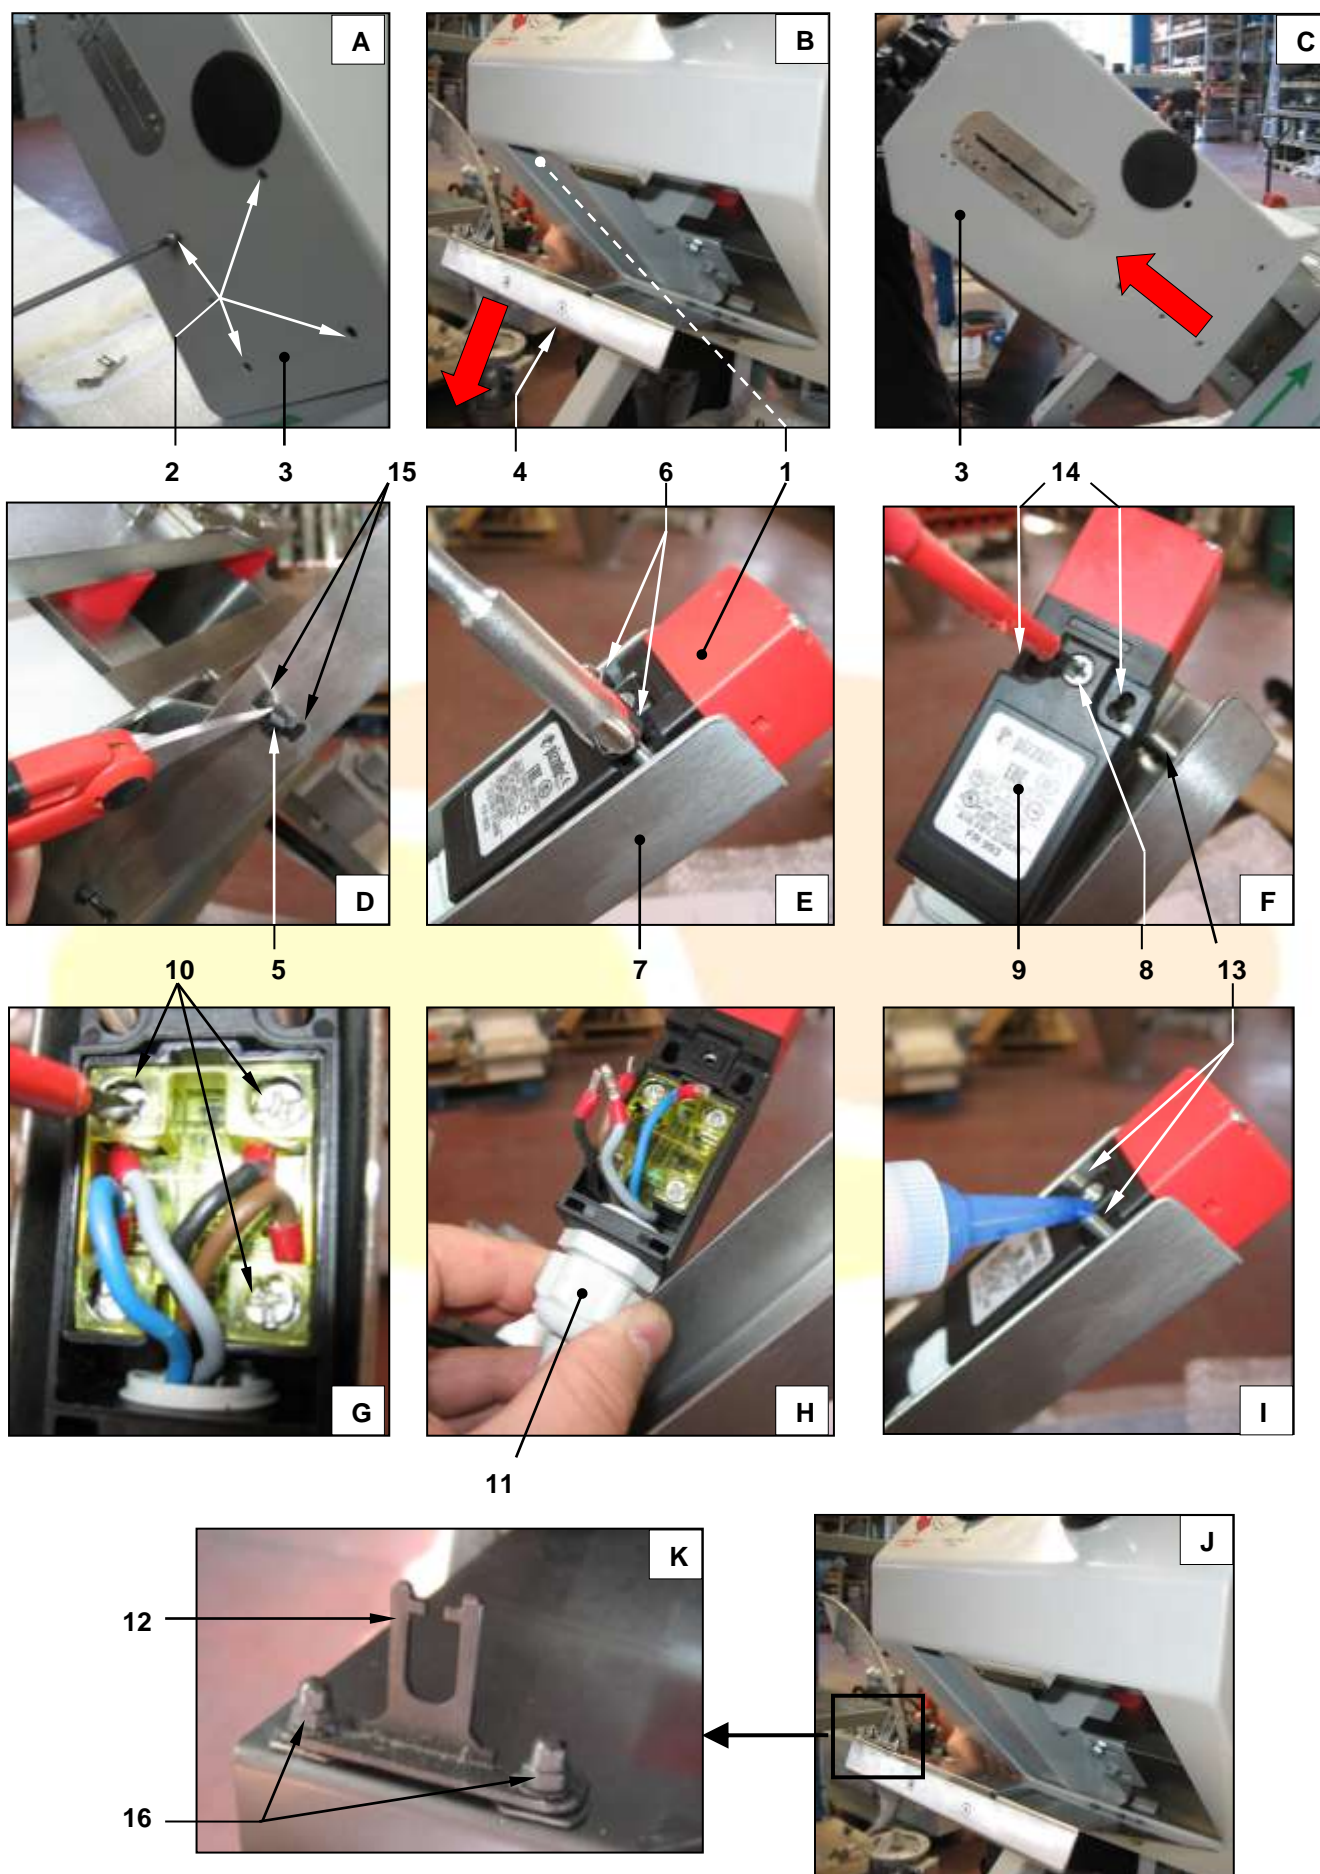

Figure 39 – Replacing the micro-switch associated with the weight chamber door
With reference to Figure 39, to replace the micro-switch ref. 1:
1. Use the 5 Allen wrench to loosen the screws ref. 2 and that hold the casing ref. 3 of the weight chamber in place (Figure A)
2. Open the door ref. 4 (Figure B), then slip off the casing ref. 3 (Figure C)
3. Use scissors to cut and remove the cable tie ref. 5 (Figure D)
4. Use the size 7 tube wrench to loosen the nuts ref. 6 that fix the micro-switch ref. 1 in place (Figure E)
5. Remove the micro-switch ref. 1 from its seating C ref. 7, using the screwdriver to loosen the screw ref. 8, then remove the cover ref. 9 (Figure F)
6. Take note of the wiring position, then disconnect the cables from terminals ref. 10 of the micro-switch (Figure G)
7. Loosen the cable gland ref. 11, pull out the cables, then insert them into the new micro-switch and fix them to the terminals ref. 10 as they were before (Figures H - G); the micro-switch must normally be closed, or in other words its contacts must be closed when the bayonet ref. 12 is connected and only under these conditions will the machine work, while they must open upon the disconnection of the bayonet and command the shut-down of the machine (this must be controlled before restarting production with the machine).
8. Assemble the cover ref. 9 and fix it with the screw ref. 8 (Figure F)
9. Insert the micro-switch into its seating ref. 7, inserting the threaded rods ref. 13 into the holes ref. 14 (Figure I)
10. Apply a small amount of threadlocker onto the protruding part of the threaded rods ref. 14 (Figure I), then tighten the nuts ref. 6 (Figure E); tighten them well without using excessive force.